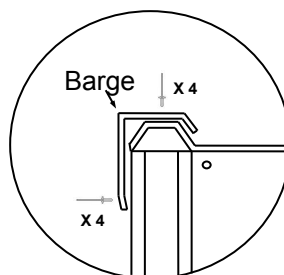

fig.3
- Rivet the Barge Flashings to the roof and the side wall, using four rivets on top of barge and four into the side (fig.3).